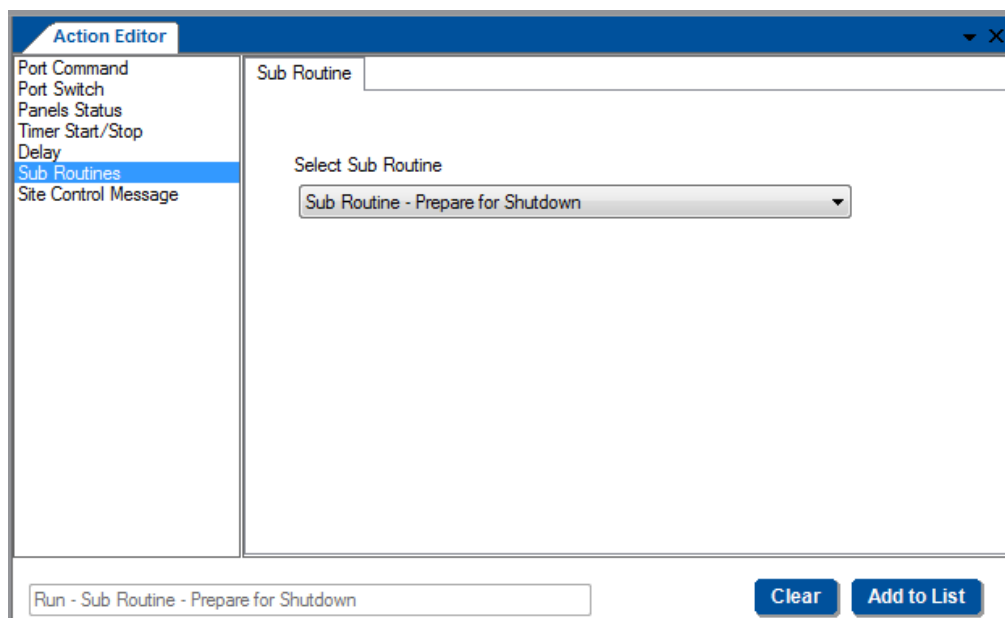

Figure 175: Sub Routines – Selecting the Action Group Trigger in the Action Editor
- In the Action Editor select Sub Routines and add the Sub Routine see Figure 175.